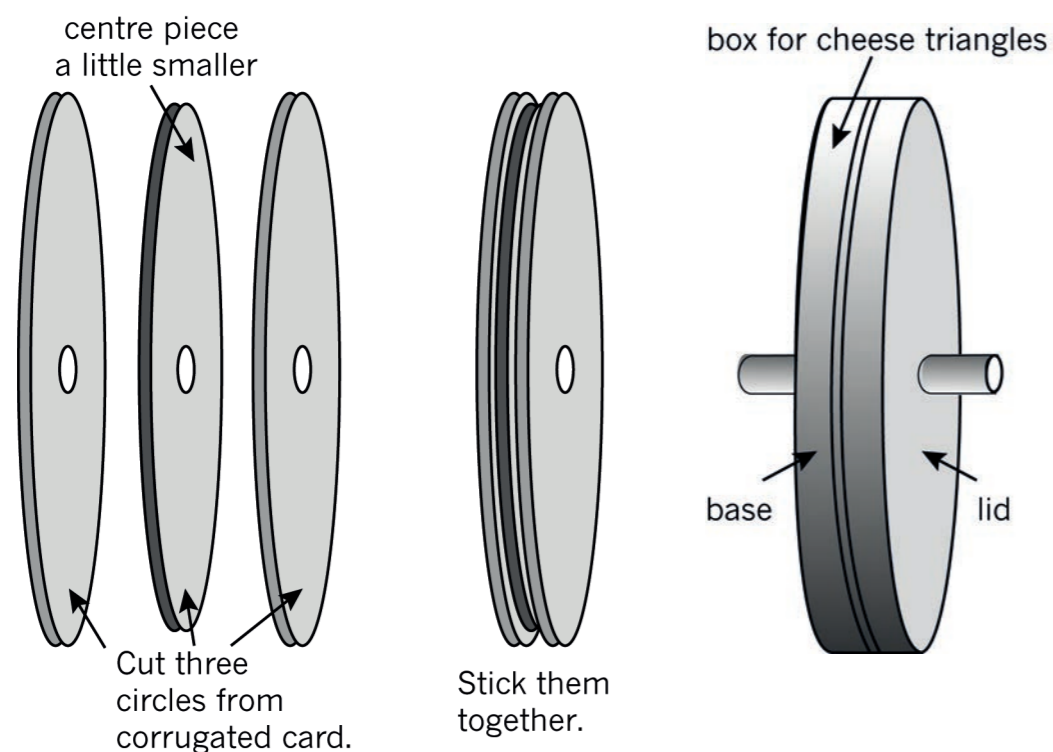

Figure 10: Two ways to make a model sheave wheel
Look at the pictures shown in Figure 10. They show two ways to make a model sheave wheel:
7. Make your own sheave wheel. Try to make it as close to the correct scale size as you can. Use Figure 10 to help you. [1]